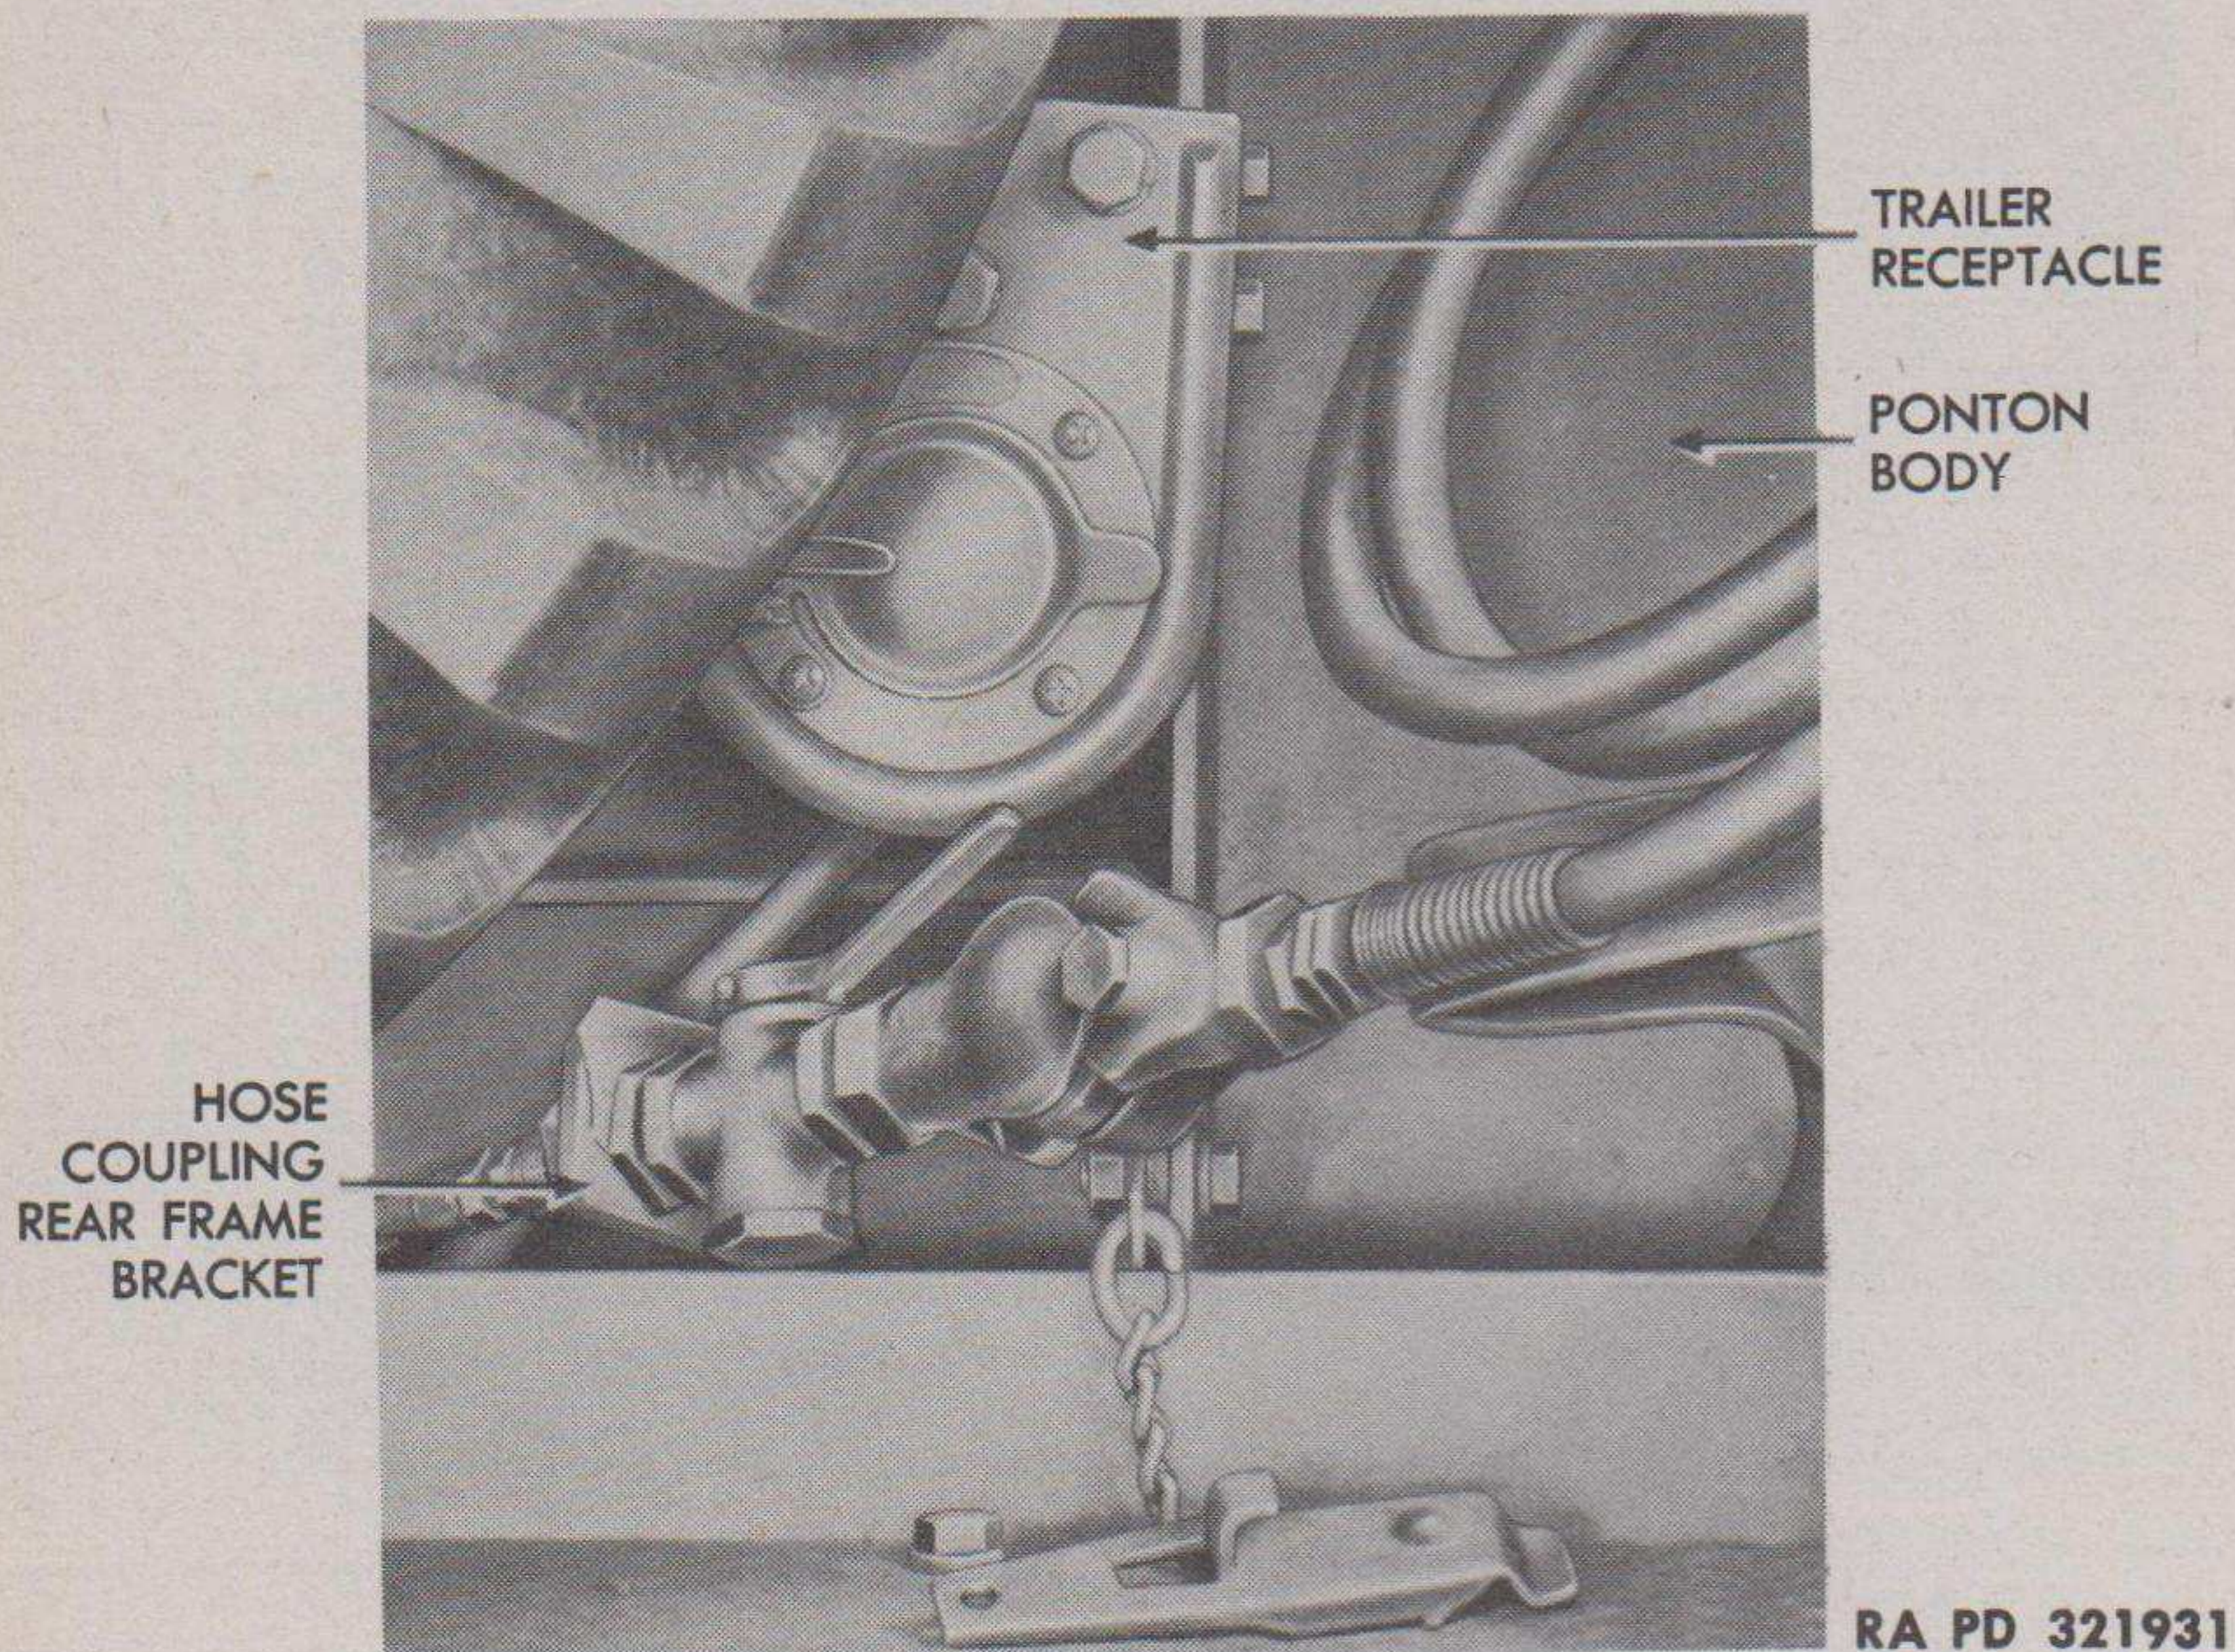

Figure 84 — Trailer Receptacle
- e. **Disconnect Hose Coupling Rear Frame Brackets (fig. 84).** Remove bolts, nuts, and lock washers which secure left- and right-hand hose coupling rear frame brackets to ponton body.
c. **Connect Hose Coupling Rear Frame Brackets** (fig. 84). Install right- and left-hand hose coupling rear frame brackets to ponton body with bolts, lock washers, and nuts.